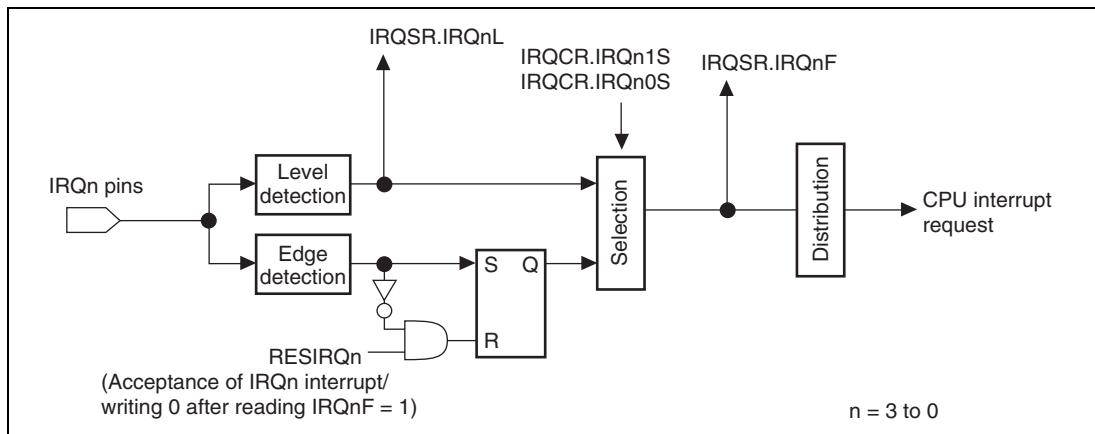

Figure 6.2 Block Diagram of IRQ3 to IRQ0 Interrupts Control
In the IRQ interrupt exception handling, the interrupt mask bits (I3 to I0) in the status register (SR) are set to the priority level value of the accepted IRQ interrupt. Figure 6.2 shows the block diagram of the IRQ3 to IRQ0 interrupts.